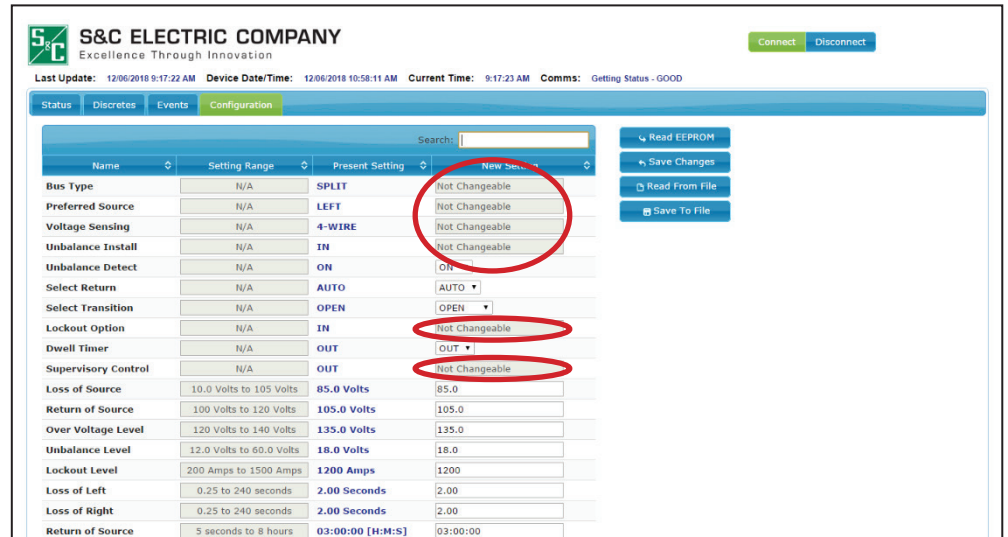

Figure 18. The factory-configured fields.
STEP 2. When the field(s) is found, enter the desired value, range, or field option. The greyed out fields are factory-configured and cannot be configured by the user. The new setting field for the factory-configured settings is also labeled “Not Changeable.” See Figure 18.
STEP 2. When the field(s) is found, enter the desired value, range, or field option. The greyed out fields are factory-configured and cannot be configured by the user. The new setting field for the factory-configured settings is also labeled “Not Changeable.” See Figure 18 on page 21.